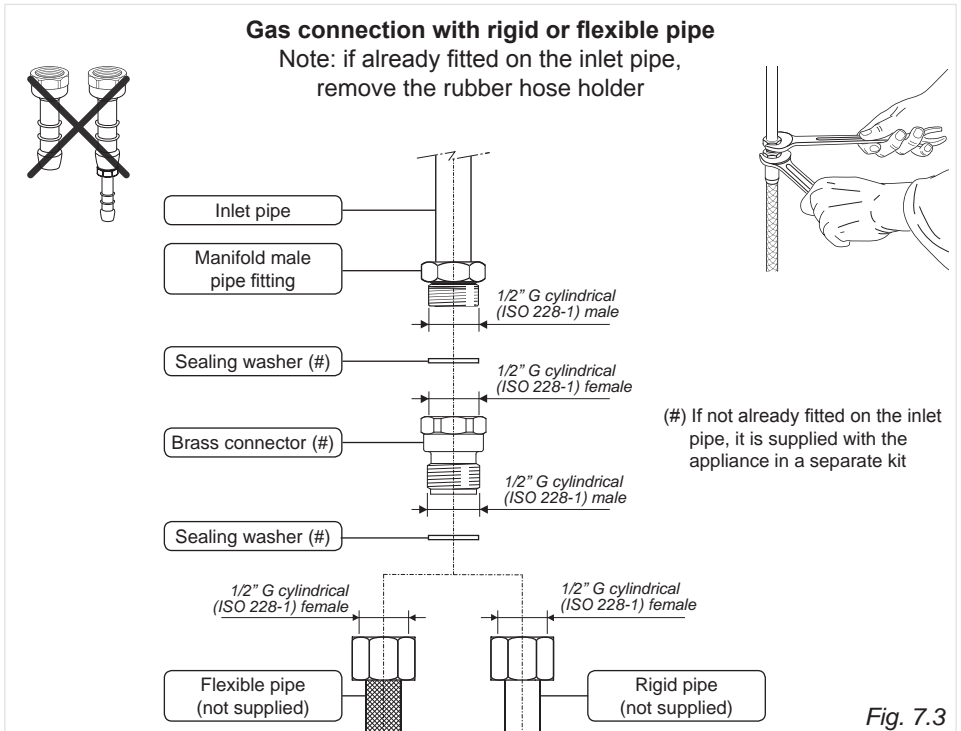

Fig. 7.3
- if compression fittings are used, you tighten them firmly using two spanners (fig. 7.3).
- use two spanners when connecting the rigid or flexible pipe (fig. 7.3).